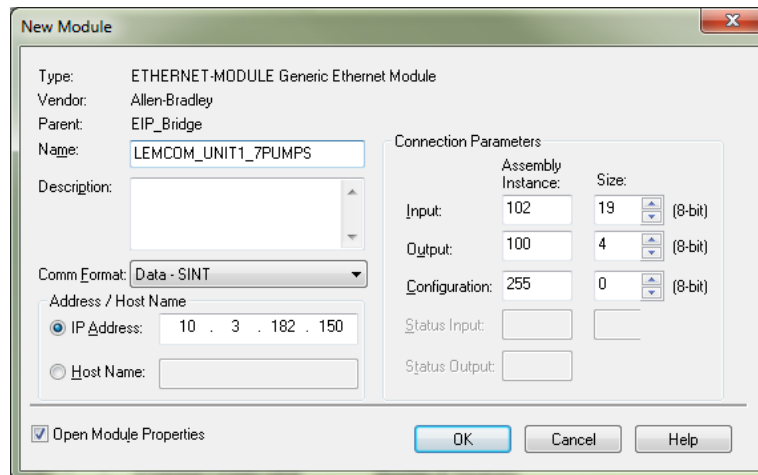

Figure 3 - New module parameters
4. Set *Connection Parameters* as shown in Figure 3.